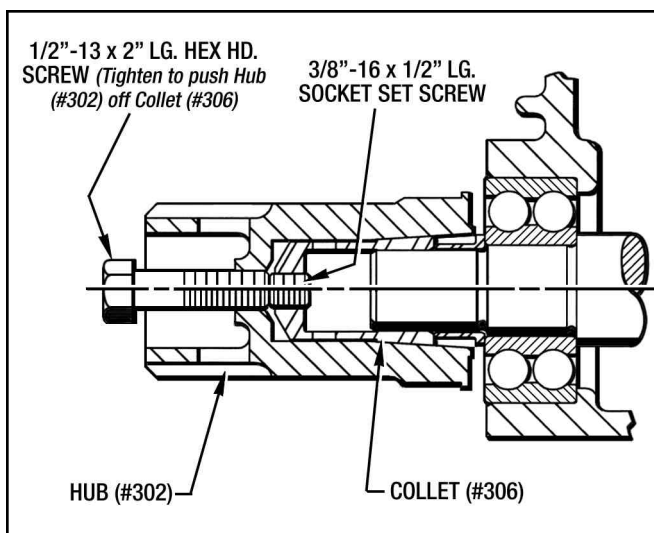

Figure 7.7 - Removing Hub off of Collet
- Remove Screw (#351). It may be necessary to apply heat to the screw to release the bond of the Loctite. Install a 3/8"-16 x 1/2" Lg. Soc. Set Screw into the Collet (#306). Then install a 1/2"-13 X 2" Lg. Hex Hd. Screw into the Hub (#2). Tighten the Hex Hd. Screw to loosen the Hub off of the Collet as shown in *Figure 7.7*.